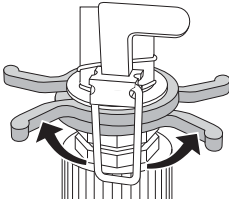

Fig. 6
- ♦ Increase the distance between the two limiter clips **4** to increase the dispersion of the water jet (see Fig. 6).